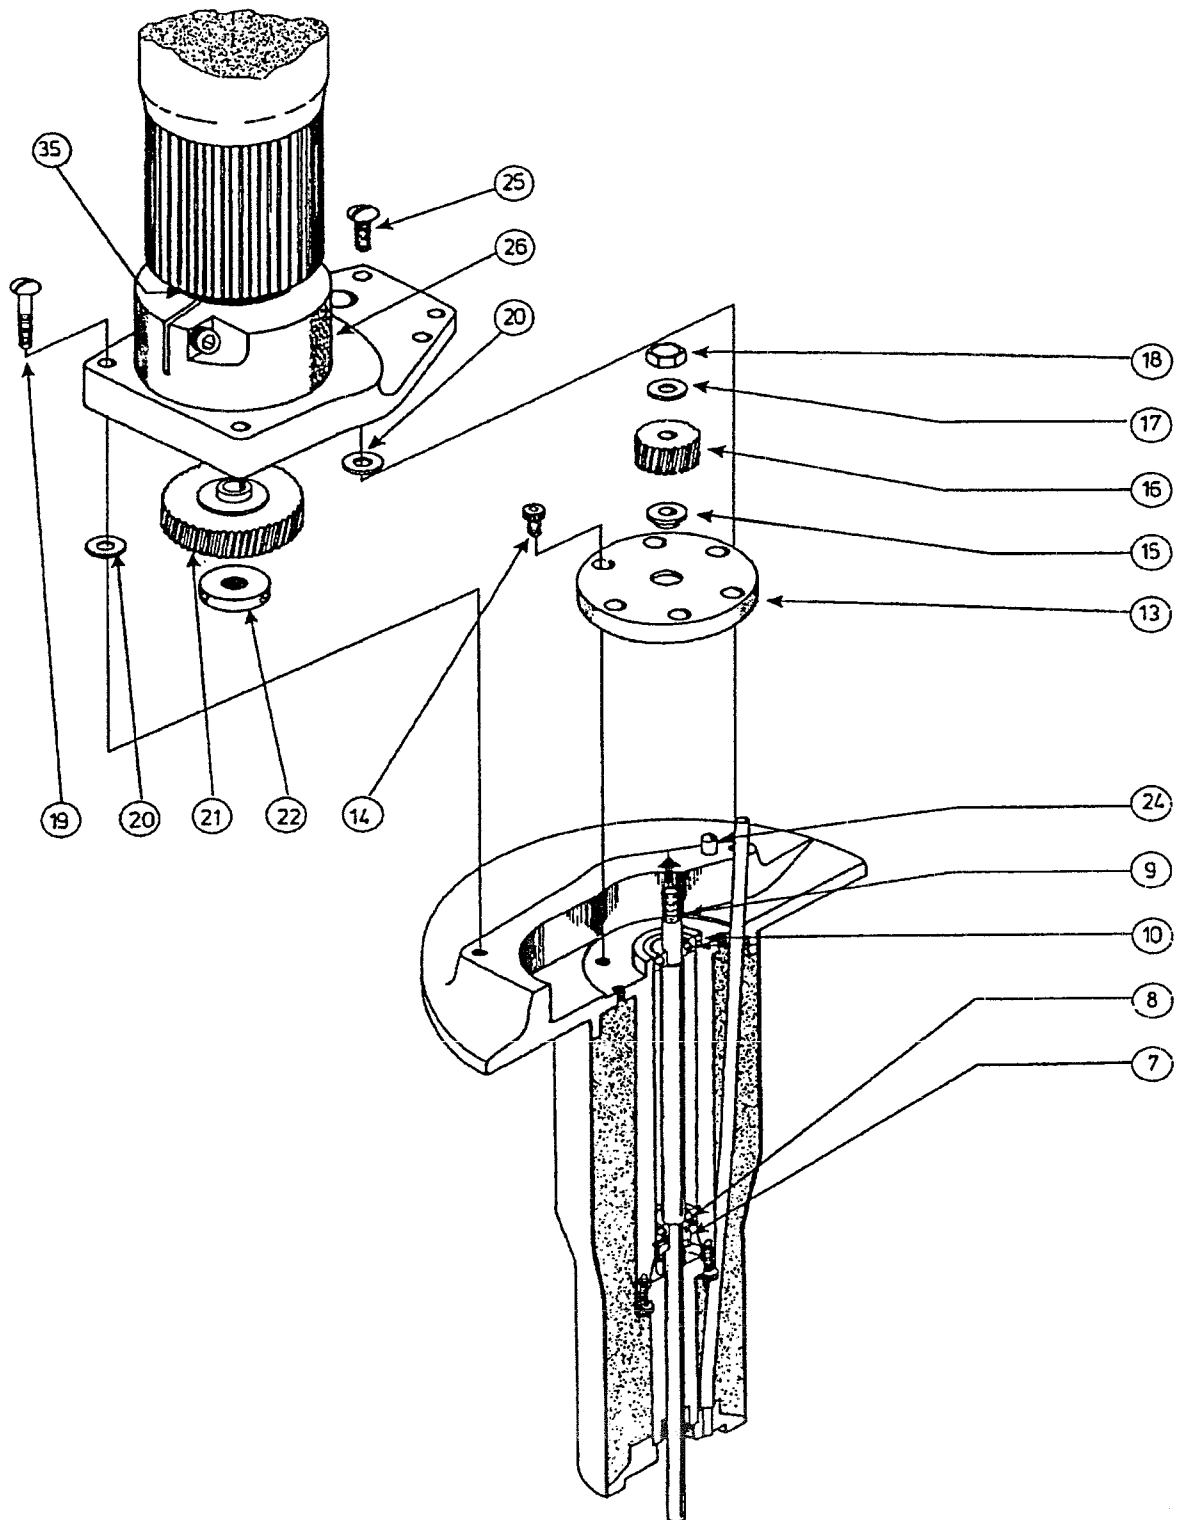

Fig.5
- The atomizer is disassembled as described in item. 6.7. The atomizer wheel is fixed by means of the open-end spanner pos. 30. The lock nut pos. 18 is dismantled by means of the spanner pos. 32. The washer pos. 17 the gear wheel pos. 16 and the distance ring pos. 15 are pulled off (Fig.5). Thereafter the atomizer wheel pos. 2 and the liquid distributor pos. 3 are dismantled. To dismantle the retaining disc pos. 13 the 6 screws pos. 14 are dismantled by means of the allen key pos. 33.
- If it is necessary to exchange the ball bearings, the spindle should be dismounted as described in item. 6.9. The worn out ball bearings are pulled off and the new bearings are mounted by means of the mounting pipe pos. 27.
- The atomizer is disassembled as mentioned in item. 6.7. The gear wheel pos. 21 is fixed by means of a cloth or the like while the nut pos. 22 is screwed off by means of the pin spanner pos. 29. After having dismantled the nut pos. 22, the gear wheel can be pulled off and the new one mounted. The nut pos. 22 is tightened thoroughly at mounting.
- Motor and spindle gear wheel should always be exchanged at the same time (Fig. 5).
- The atomizer is disassembled as mentioned in item. 6.7. The atomizer wheel and thus the spindle is fixed by means of the spanner pos. 30 while the nut pos. 18 is dismantled by means of the spanner pos. 32. The gear wheel pos. 16 can thereafter be pulled off and a new one can be mounted. The nut pos. 18 is tightened thoroughly at mounting. (Torque 6 Nm)